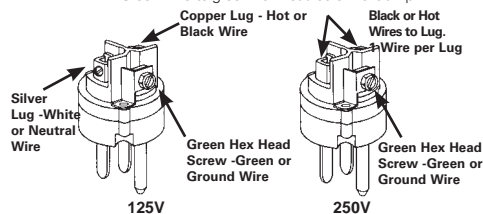

Figure 5
- Attach conductors (See Figure 5).